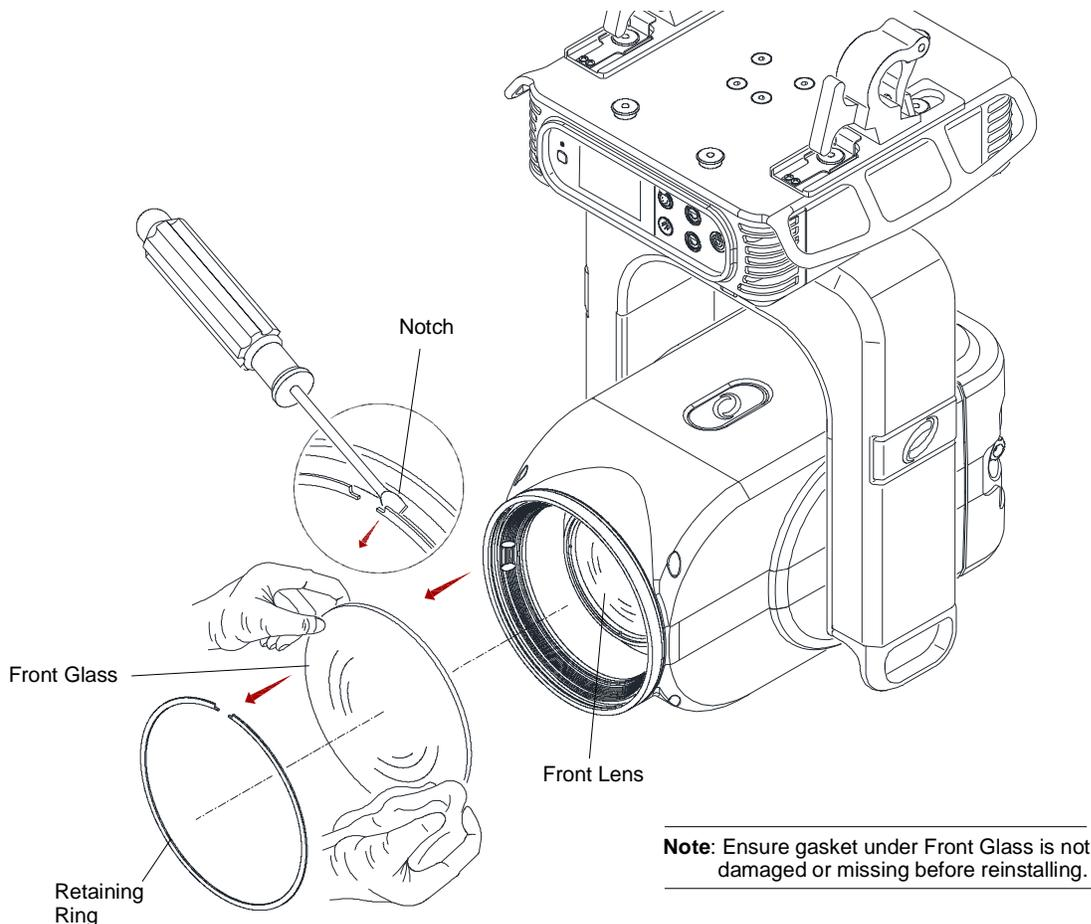

Figure 4-7: Removing Front Glass
Step 7. As in Step 5 above, clean remaining lens surfaces and front of luminaire Front Glass (**Figure 4-7**).